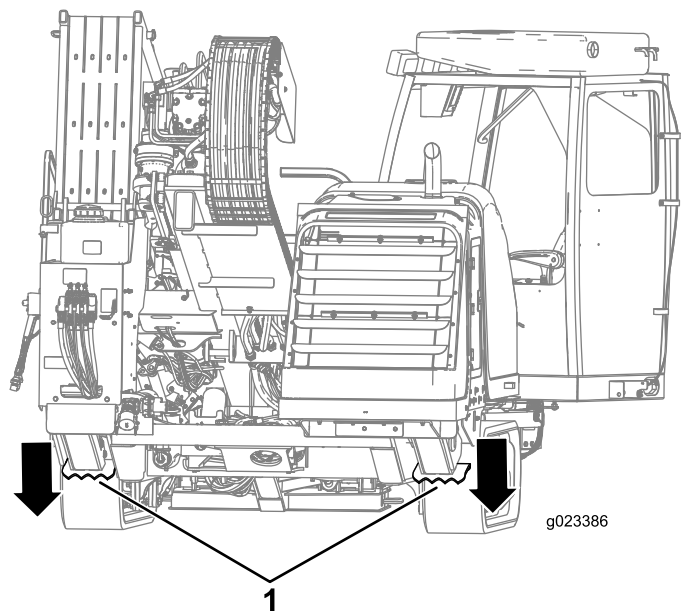

Figure 74
10. Lower the rear stabilizers until they contact the ground firmly, or until the desired entry angle is achieved (Figure 74).